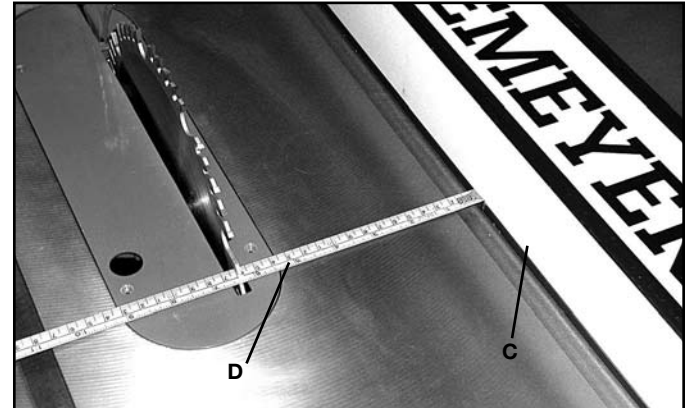

FIG. 24
2. Align fence side (C) Fig. 24, with the miter slot on the table saw and lock fence in position. Using a measuring tape (D), measure the distance from the saw blade to the fence side.